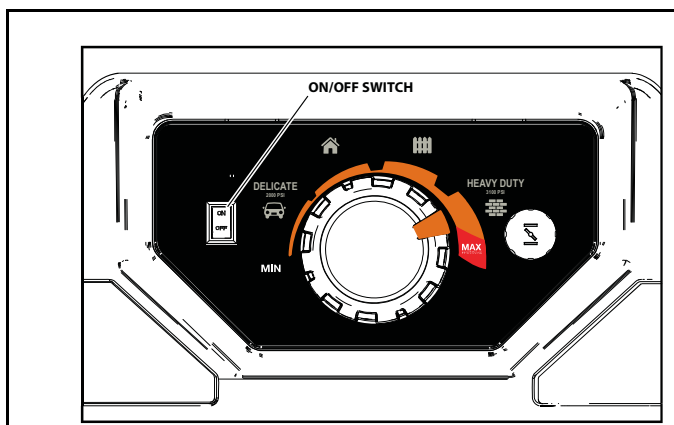

Figure 5-7. ON/OFF Switch
2. Turn the engine ON/OFF switch to the "OFF" position (Figure 5-7).